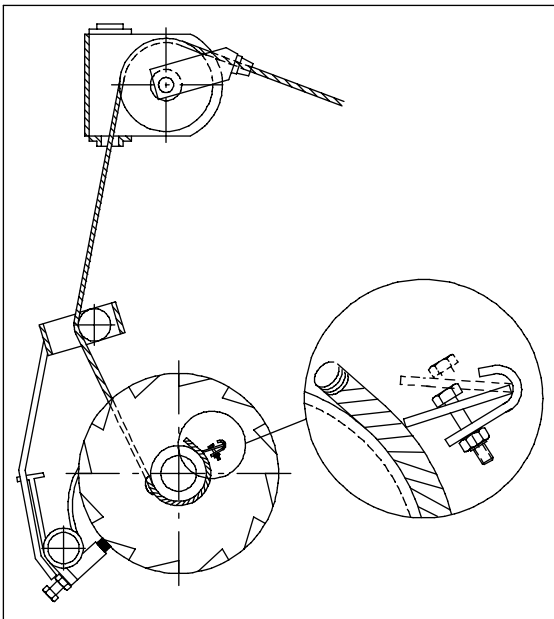

Fig. 3. Fastening the cable
5. Pass the cable end through the hole in the drum plate, pull about 15 cm (6"), and insert under the wedge of the cable lock device. See fig. 3.